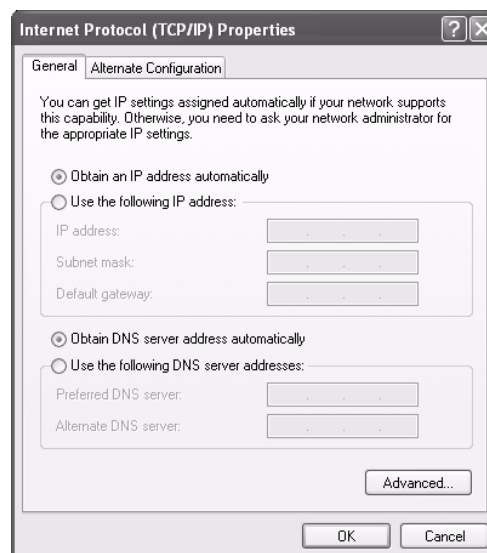

Figure 62: Internet Protocol Properties - Windows XP
6. Click **Properties**. The Internet Protocol Properties window appears as shown in Figure 62.